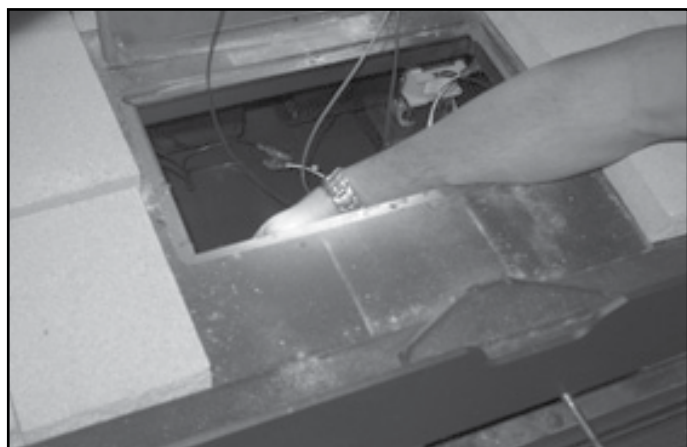

**Figure 4.15 Remove Upper Arm**
- Remove two screws from timer linkage upper arm. Be careful NOT TO DROP arm in bottom of fireplace. See Figure 4.15